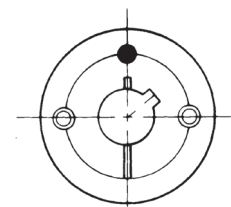

FIGURE 3
- iii) Open access flap by loosening the two bolts item 12 and rotate flap anticlockwise.
- v) Clean hexagonal socket in items 5 thoroughly.
NOTE: Ensure to hold key square to the face of blade, Ref. Fig. 3 (2.5° off front plate item 10)
- (ii) Observe Figure 3.